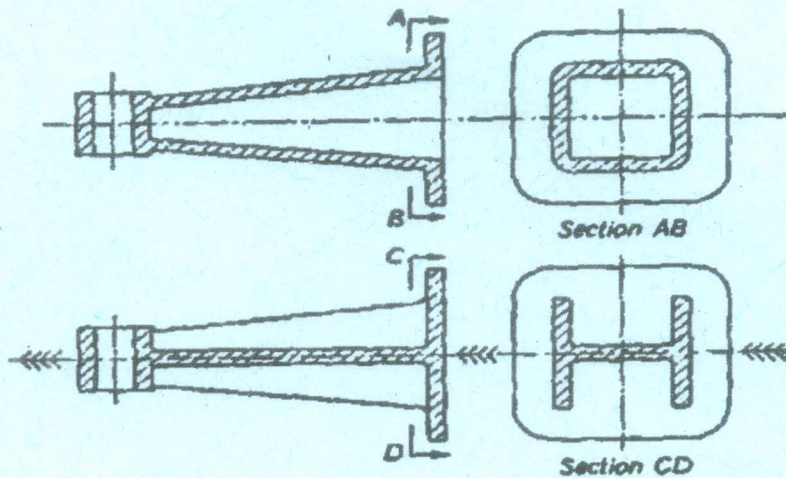

Fig. 5
- (b) Two different casting designs of a bracket are shown in Fig. 5, among two, identify the preferred design. Explain the preferred form design from design and manufacturing perspective. (16)